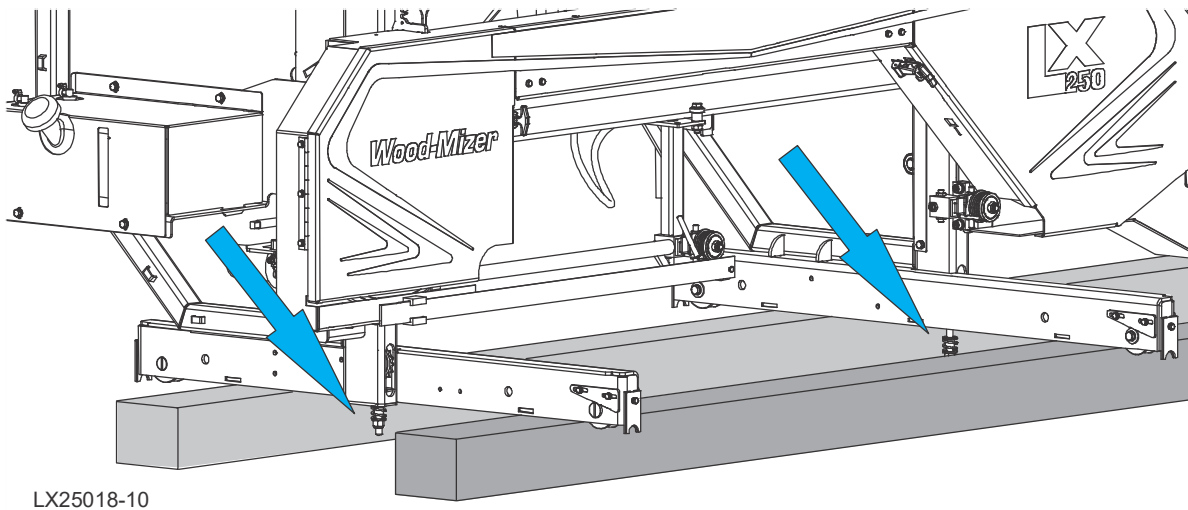

FIG. 3-2
- 4. Set the mast on the blocks called out in Section 3.1 Tools required. See Figure 3-2.
**CAUTION!** Use care to protect the adjustment screws at the bottom of the mast. See Figure 3-2.
See Figure 3-2.